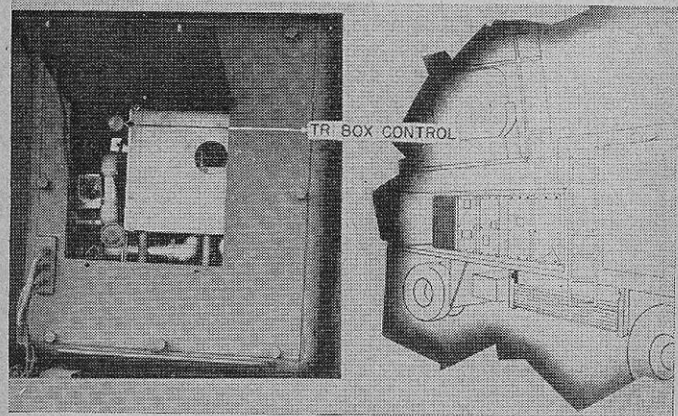

FIGURE 26.—SEARCH transmitter.
■ **24. SEARCH TRANSMITTER.**—*a.* The **SEARCH TRANSMITTER** (fig. 26) converts d-c power from the **HIGH VOLTAGE RECTIFIER** (par. 16) into very high frequency power for operation of the **SEARCH** system.